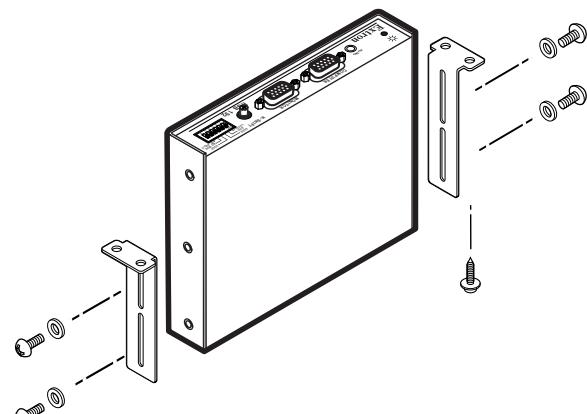

Figure 2-2 — Through-desk mounting
2. Insert the machine screws that are already installed in the side of the interface through the slots in the through-desk mounting brackets (part #70-077-02), and loosely secure the brackets to the interface (figure 2-2).